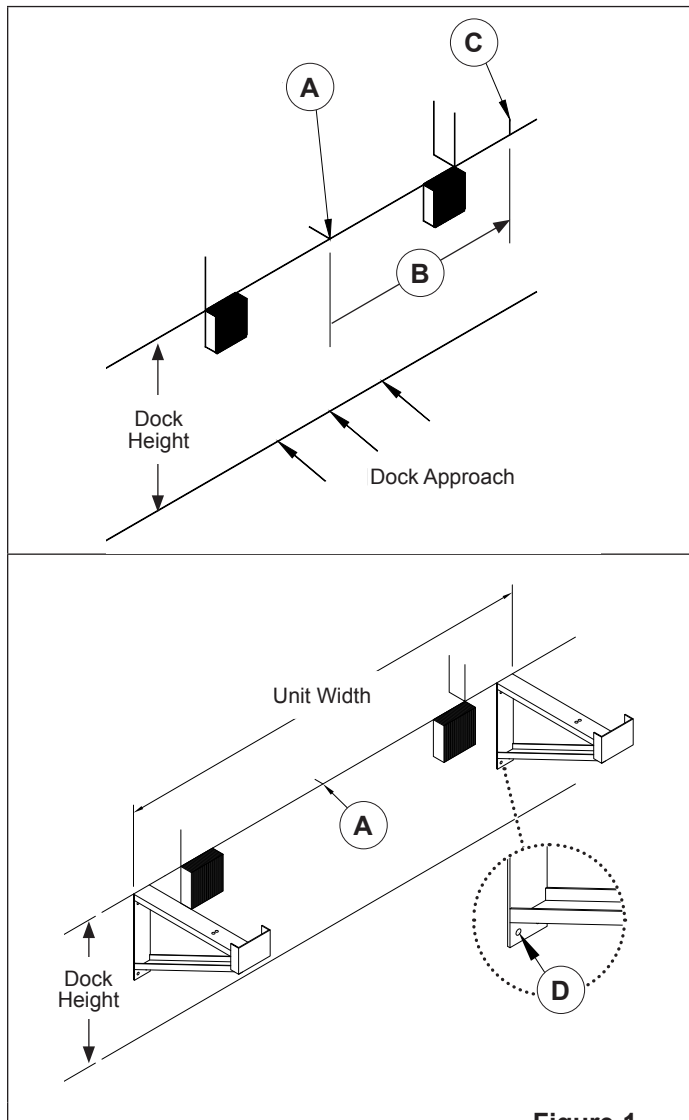

Figure 1
2. Position side frame (A) so its outboard edge (B) sits flush with outside edge of mark (C) (Figure 1) / bumper edge (C).
4. Fasten side frame to building wall with minimum of 3 clip brackets (D).
5. Fasten to steel bumper with 1 clip bracket (E).